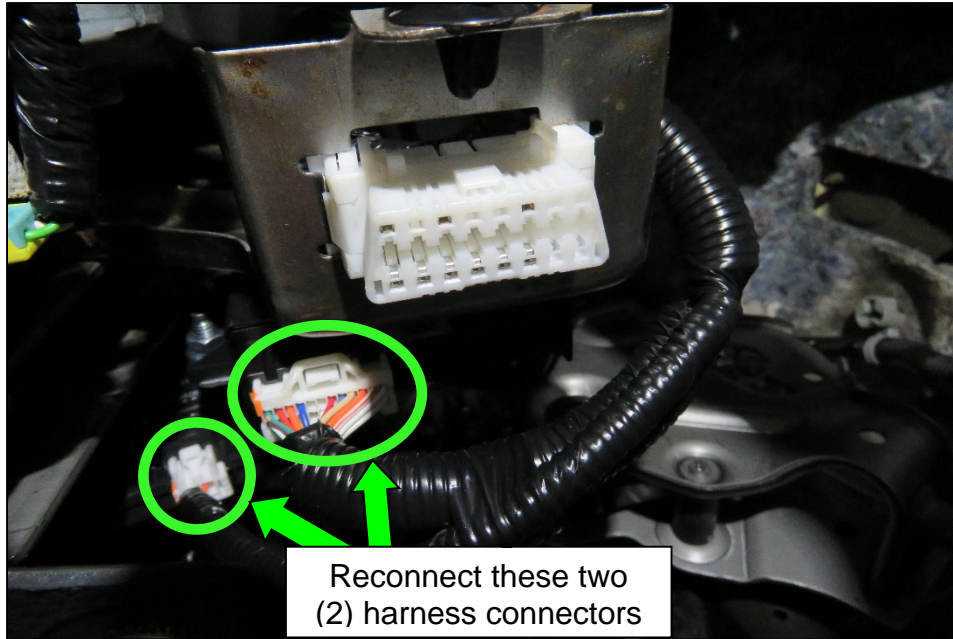

Figure 9
14. Reconnect the white 24-pin Sonar Control Unit harness connector M114 and the smaller white harness connector near it (Figure 9).